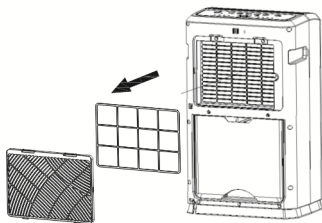

Fig.4
- 1.Primary filter cleaning: Remove grid, then take off dust filter from the back of machine (fig.4)